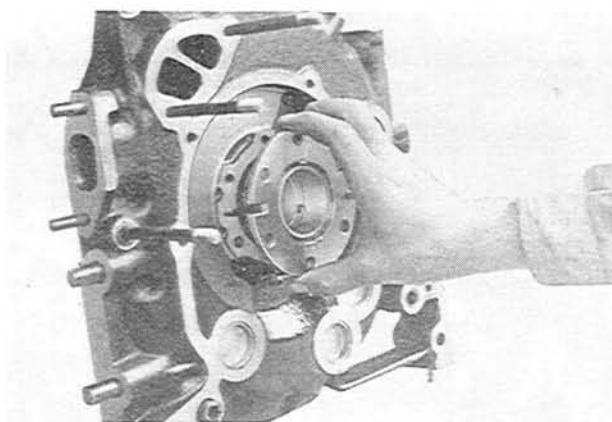

Fig. 1-36 Installing stationary gear
7. Press in the stationary gear to the housing with **main bearing puller and installer** (49 0813 235), aligning the slot of the stationary gear flange and the dowel pin, as shown in Fig. 1-36.